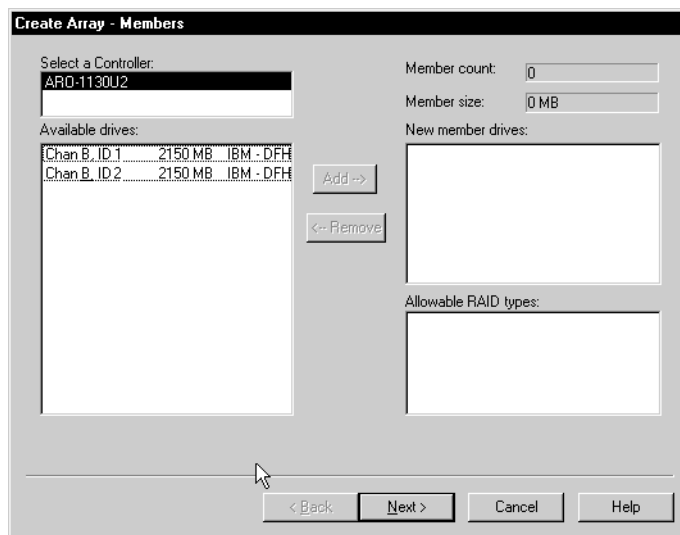

Figure 5-3. Create Array - Members Dialog Box
- 3 Click the **Create New Array**  on the Storage Configuration window toolbar. The Create Array - Members dialog box appears, as shown in Figure 5-3.